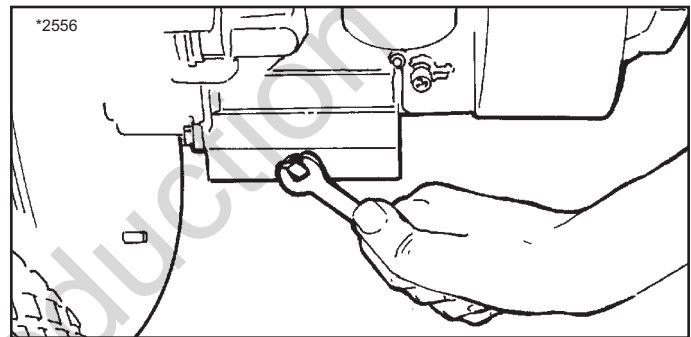

Figure 11. Engine Oil Drain Plug
1. Drain engine oil by unscrewing drain plug in engine base (see Figure 11) and letting oil drain into a suitable container.